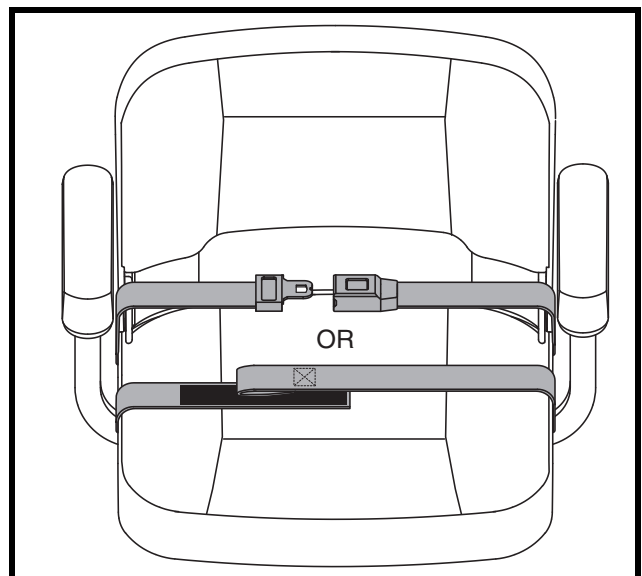

Figure 19. Positioning Belt - Metal Tab Style or Reusable Hook and Loop Fastener Style
Your scooter seat may be equipped with a positioning belt that can be adjusted for operator comfort. See **figure 19**. The positioning belt is designed to help support the operator so that he or she does not slide down or forward in the seat. The positioning belt is not designed for use as a restraining device.
1. Insert the metal tab on the right side of the belt into the plastic housing on the opposite strap until you hear a “click.” See **figure 19**.
1. Align the two sides of the belt placing the looped-end side directly above the coarser side (“hook”) of the opposite belt. Press firmly together to fasten. See **figure 19**.